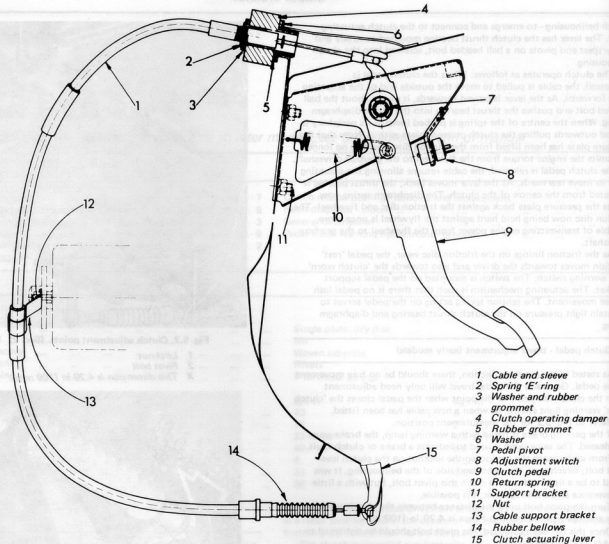

Fig. 5.4. Clutch cable and pedal assembly
- 5 From the engine compartment, prise out the circlip from the outer cable at the point where the cable passes through the rear engine bulkhead (see Fig. 5.4).